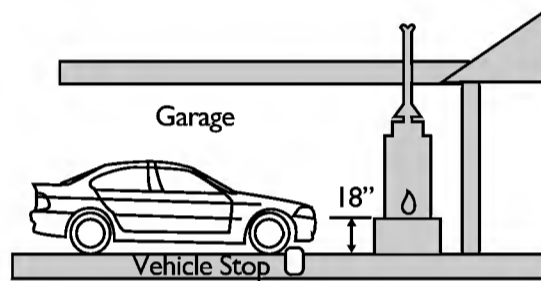

Figure 3
b) Installation of a water heater in a garage, unless the unit is installed so that the burner and ignition devices are at least eighteen (18) inches above floor level and protected to avoid damage by moving vehicle. See Figure 3.